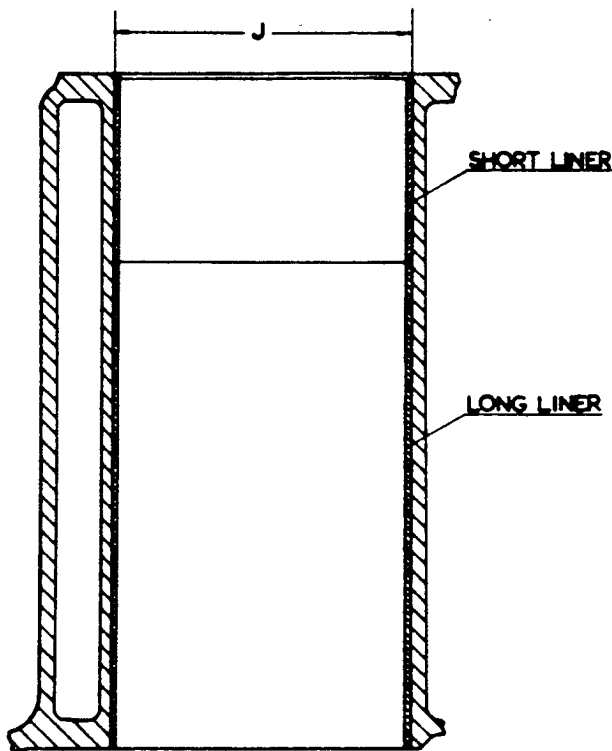

FIG.4. SECTION - CYLINDER-TWIN LINERS IN POSITION (3.625" DIA. BORE ENGINE).
- (iv) Again set up the crankcase on the boring machine with the upper end of the 3.750" (95.25 m/m) dia. counterbore CONCENTRIC with the boring cutter and bore out the cylinder in stages, the whole of its length (See 'J' Fig.4) to a diameter that will allow the correct interference fit between the cylinder and the pair of matched liners.